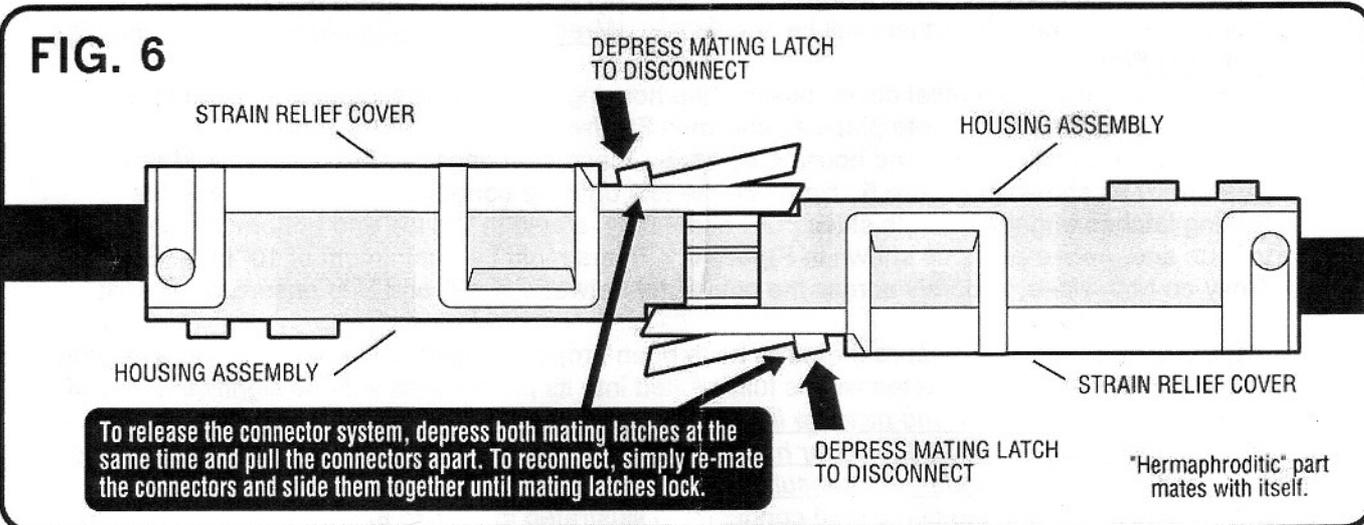

FIG. 6
- Mating and un-mating the completed connector is illustrated in **Figure 6**.